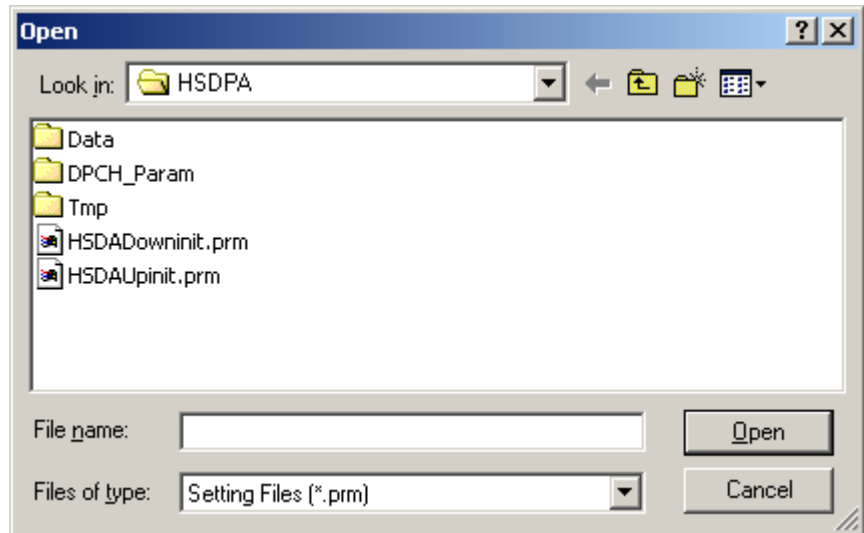

Figure 4.10.5-2 Parameter File Reading Dialog Box
- (1) Select **Recall Parameter File** from the **File** menu or click the  tool button to display the parameter file reading screen shown in Figure 4.10.5-2 above.
- (2) Select a parameter file to be read from the file list, and then click the **Open** button to read the selected parameter file.